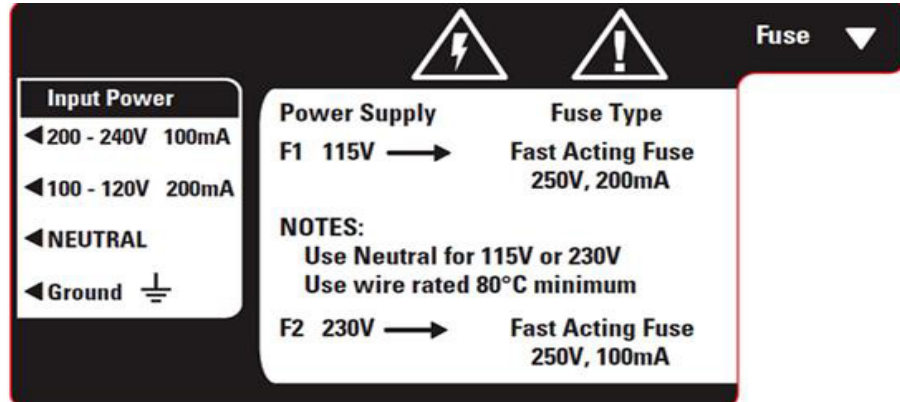

Figure 5: Power Supply
- Power supply – Refer to Figure 5.
- Plug the terminal connector into the power supply. Refer to Figure 5.
- The universal power supply uses both fuses in the fuse kit. Install by inserting the fuse in the fuse holder and secure it using the twist and lock method. The fuses are clearly labeled with the appropriate voltages for your system. Refer to Figure 5 and Figure 7 for the correct fuse holder positions. Refer to the table below for fuses required.